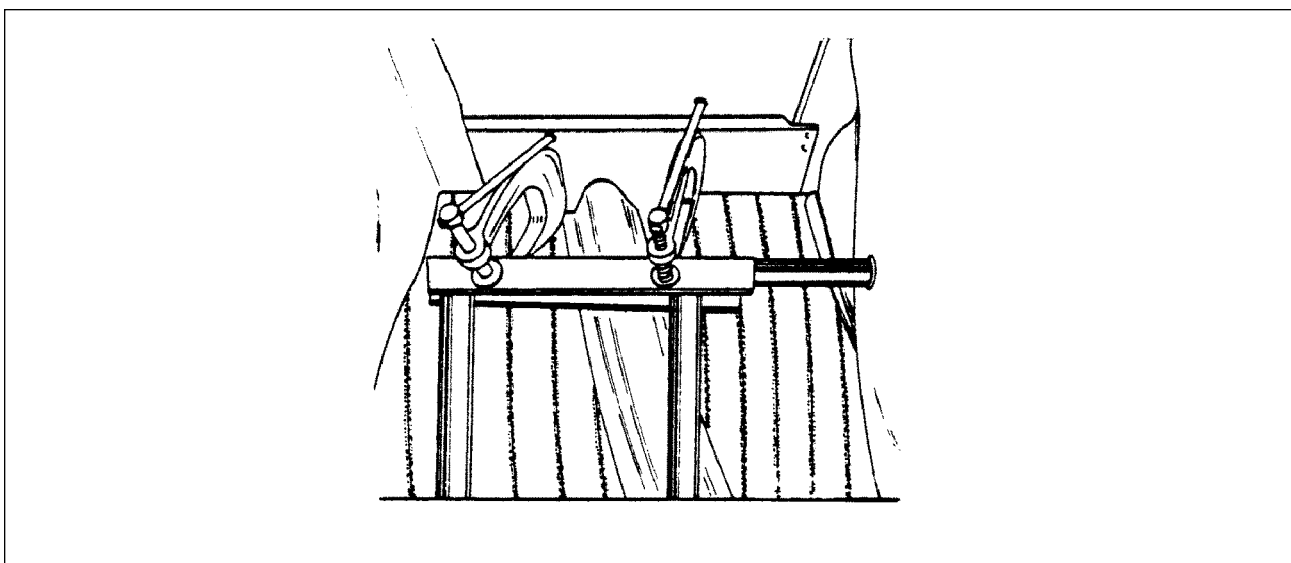

Figure 5-13. Clamping Rudder Pedals in Neutral Position
2. Clamp the rudder pedals to align in a lateral position as shown in Figure 5-13.